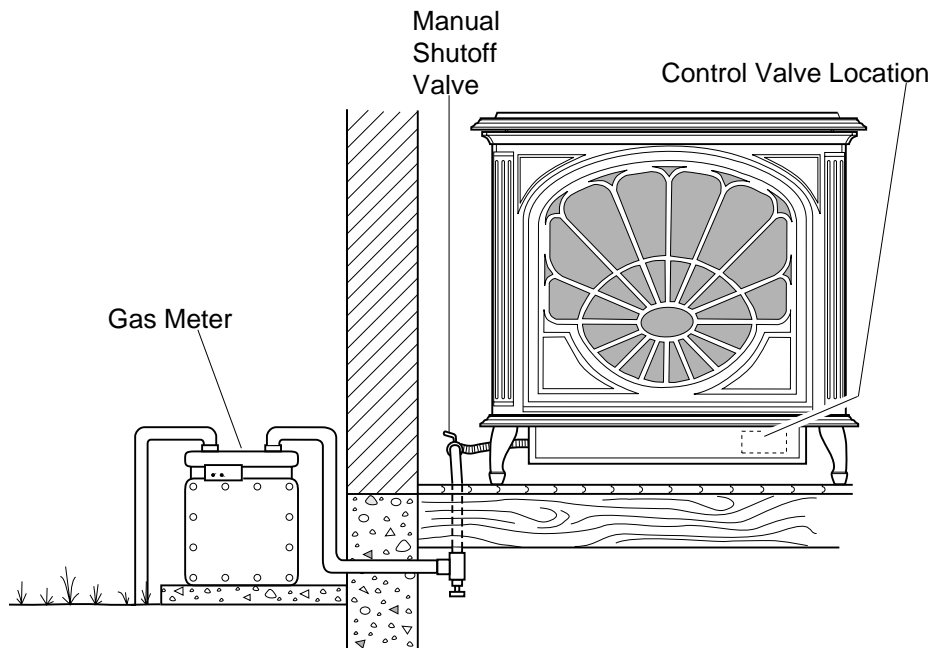

Figure 20 - Checking Gas Joints
3. Check all joints from gas meter to manual shutoff valve (see Figure 20). Apply mixture of liquid soap and water to gas joints. Bubbles forming show a leak.
4. Check all joints from manual shutoff valve to control valve (see Figure 20). Apply mixture of liquid soap and water to gas joints. Bubbles forming show a leak.